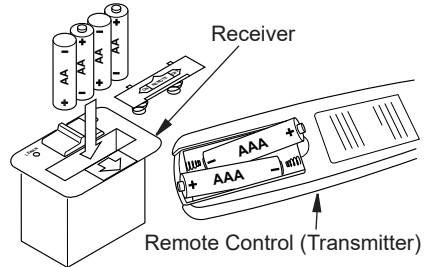

Figure 20 - Installing Batteries in Remote Control and Receiver
Batteries are required in both the Remote Control (Transmitter) (2 AAA size) and Receiver (4 AA size) (see Figure 20).
1. Remove battery cover on receiver as shown on the box. Install four AA size batteries into receiver, (see Figure 20).